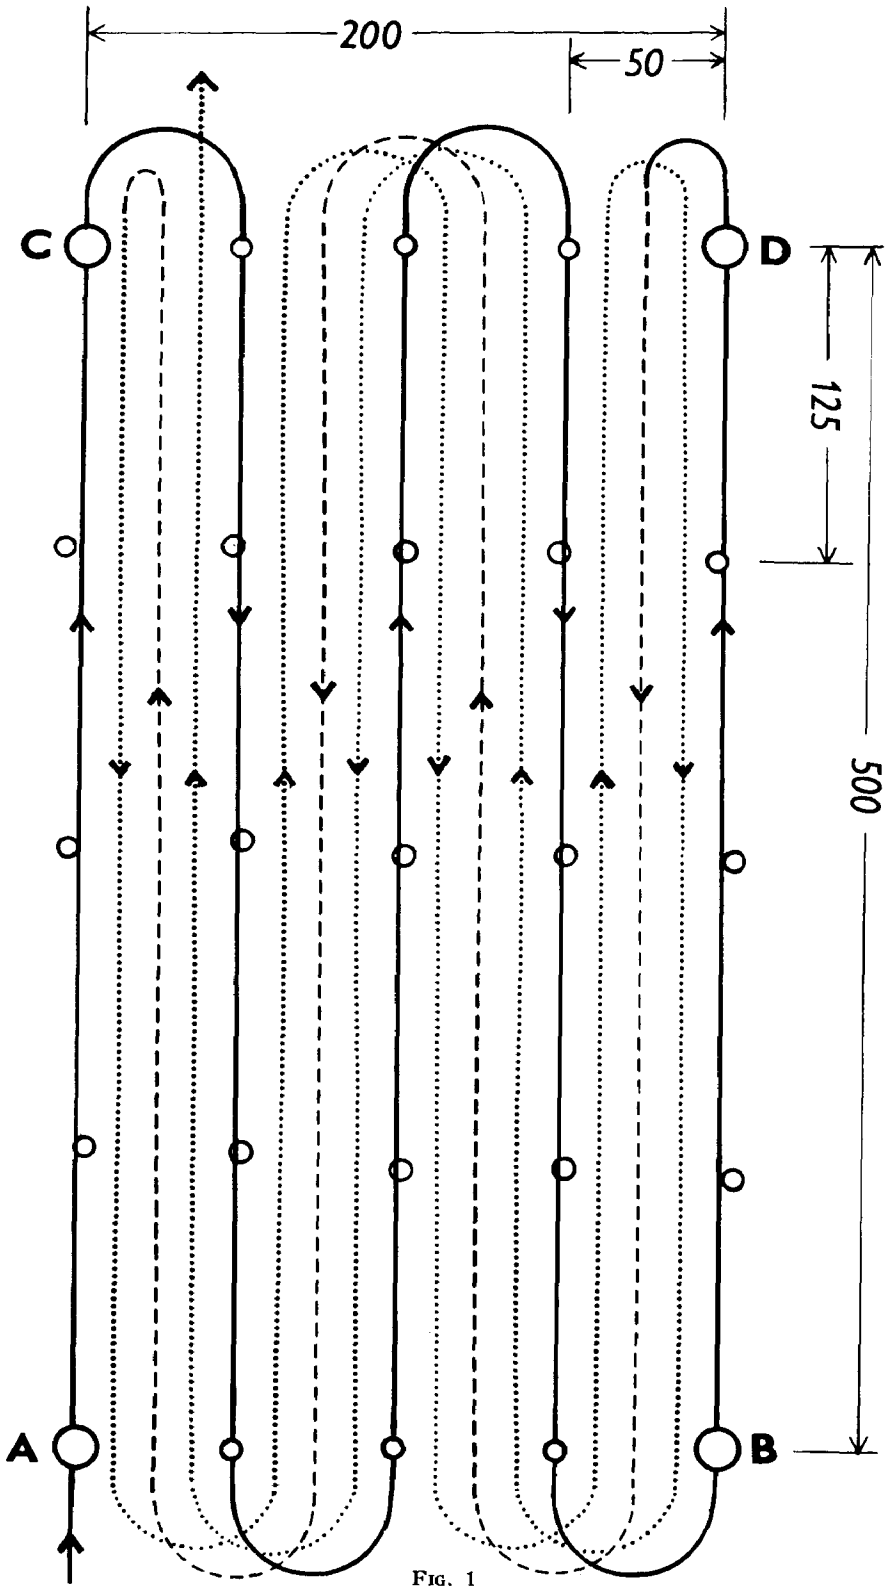

FIG. 1
Due to shallow waters and uneven bottom topography the proportion of "development" in Swedish hydrographic surveys has always been rather high and showed during the 1950's a tendency to a further increase. Considerable attention was therefore paid to a system of fast working, convenient and economic selfanchoring marker buoys in a development block, which normally were placed as shown in fig. 1. (Large and small circles represent a total of 25 buoys.)
- (1) that most of the buoys are dropped at full speed (8 knots) in accordance with a determined time interval,
- (2) that only those buoys, marked A. B. C. and D. in fig. 1, are positioned later by sextant angles,
- (3) that sounding lines are run as shown in fig. 1, averaging out minor divergencies in buoy positions from the ideal positions,
- (4) when a reversing tidal current exists a block has to be finished before the tide reverses.